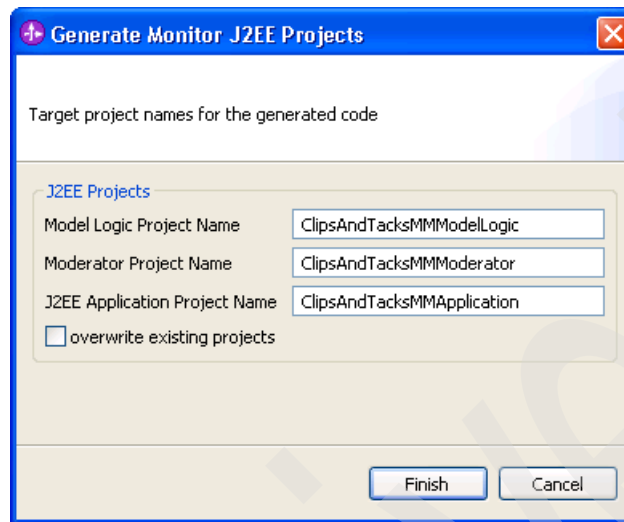

Figure 5-80 Generate Monitor J2EE Projects window
4. In the Generate Monitor J2EE Projects window (Figure 5-80), leave the default values and click **Finish**.